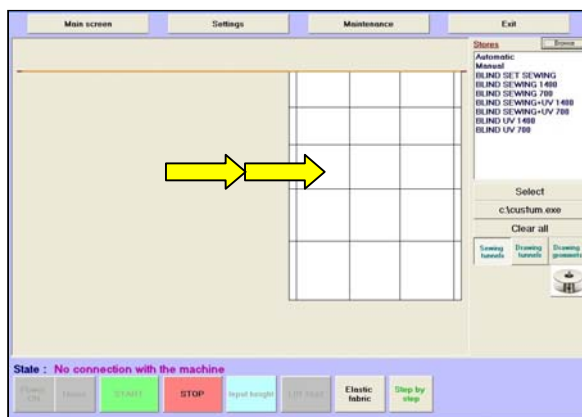

Figure 35 Main screen
- ▶ Double-click the illustration on the touchscreen (Figure 35).